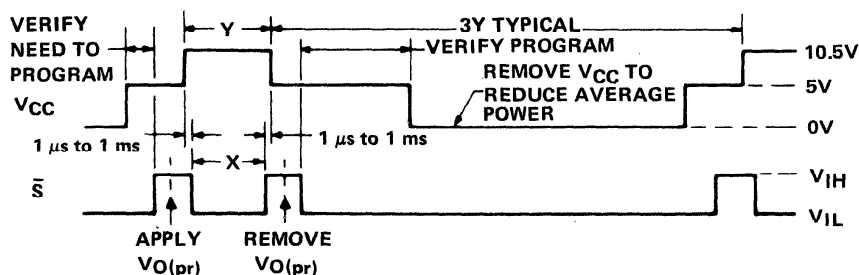

FIGURE 2 — VOLTAGE WAVEFORMS FOR PROGRAMMING
6. Apply a low-logic-level voltage to the chip-select input(s). This should occur between $1\text{ }\mu\text{s}$ and 1 ms after V_{CC} has reached its 10.5-V level. See programming sequence of Figure 2.